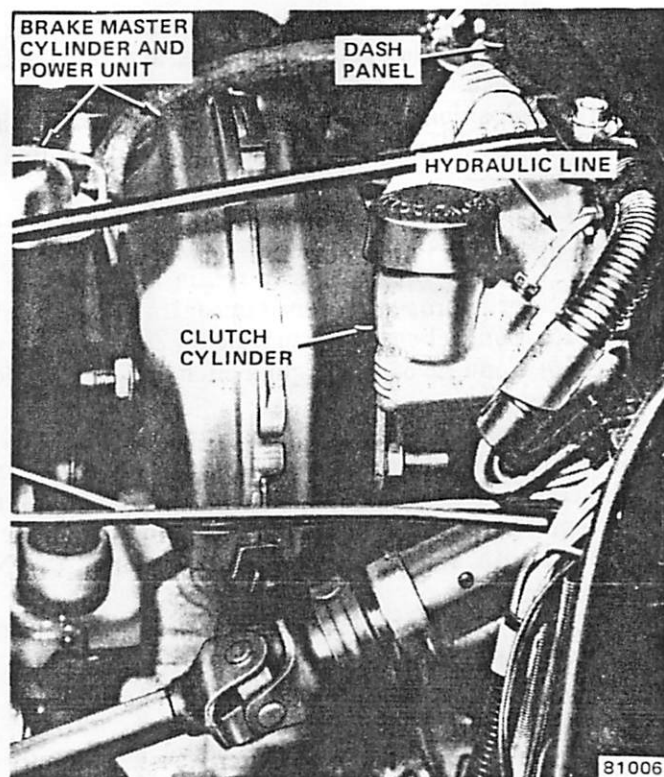

Fig. 2A-8 Clutch Cylinder Location
(1) Remove reservoir cap and rubber cover. Place cap and cover on clean, lint free paper or cloth.
(2) Remove push rod dust cover. Use screwdriver to pry cover off cylinder. Discard cover after removal.
(3) Remove snap ring that retains push rod in cylinder. Use needlenose pliers to compress ends of snap ring and remove ring from cylinder bore. Discard snap ring after removal.
(4) Remove push rod, retaining washer and seal as assembly (fig. 2A-9). Remove and discard push rod seal.
(5) Remove plunger, valve spring, and valve stem assembly from cylinder bore (fig. 2A-9). Tap cylinder body lightly on wood block to dislodge assembly from bore.
(6) Compress valve spring slightly and pry tab of valve stem retainer upward to release retainer, spring, and stem assembly from plunger (fig. 2A-10).
**NOTE:** The retainer tab is located in the rectangular slot in the side of the stem retainer (fig. 2A-10). Use a small, thin blade screwdriver to pry the tab upward.
(7) Remove seal from plunger (fig. 2A-9). Discard seal after removal.
(8) Remove spring retainer and valve stem from valve spring.
(9) Remove valve stem from retainer and remove spring washer and stem tip seal from end of valve stem (fig. 2A-9). Discard stem tip seal and spring washer.
(10) Clean all parts thoroughly with brake fluid or brake cleaning solvent only.
(11) Inspect cylinder bore for cracks, porosity, wear, deep scoring or nicks, and severe corrosion or pitting. If bore exhibits any of these conditions, replace cylinder.